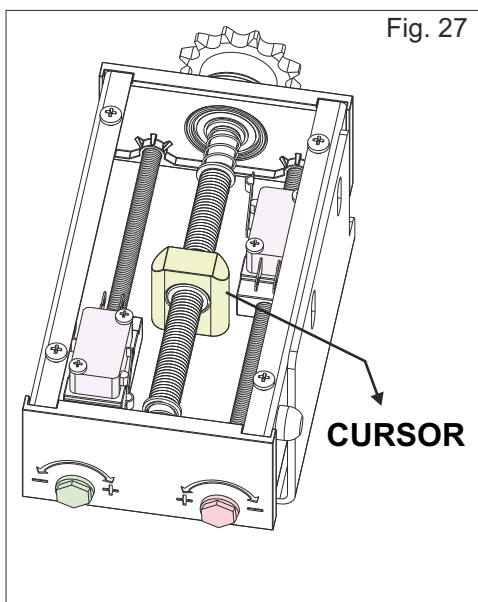

Fig. 27
4.3. Before adjusting the limit switch, make sure that the operator chain is correctly fasten to the gate, that limit switch cursor is in the middle of its run (Fig. 27) and the gate is at its halfway